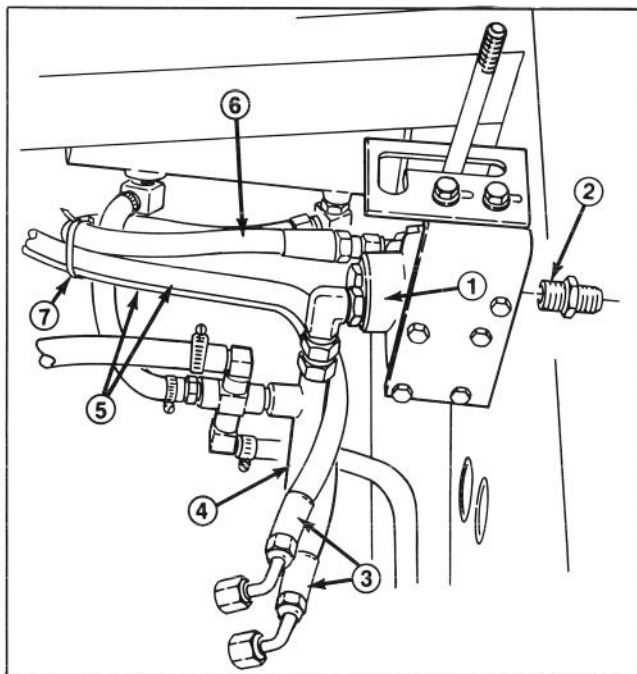

Figure 13
6. Replace the 90° elbow on the main deck lift valve with the new 9/16 SAE to 11/16 ORFS adapter (Fig. 13). Tighten this new adapter and discard the old elbow.
7. Route the new short 3/8" ID hydraulic line through the upper left hole in the vertical frame plate (Fig. 4). Connect either end of this line to the new ORFS adapter (see step 6) on the main deck lift valve (Fig. 13). Do not tighten the hose at this time.
9. Route the two new 1/4" flexible hydraulic lines behind the main return steel manifold in Fig. 13.
17. Wrap one of the plastic ties around the two wing pressure lines and the cylinder pressure line (Fig. 13). Position the tie to keep the hydraulic lines from contacting the P.T.O. shaft.